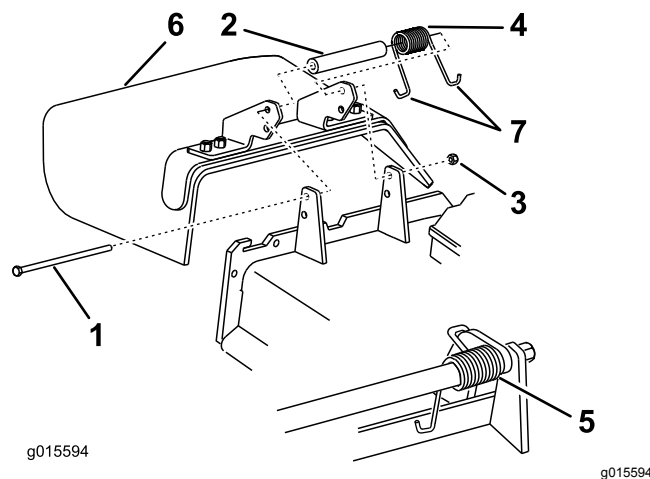

Figure 86
Note: Make sure that 1 J-hook end of the spring is installed behind the deck edge before installing the bolt as shown in Figure 86.
6. Place 1 J-hook end of the spring around the grass deflector (Figure 86).
1. Remove the locknut, bolt, spring, and spacer holding the deflector to the pivot brackets (Figure 86).
2. Remove the damaged or worn grass deflector (Figure 86).